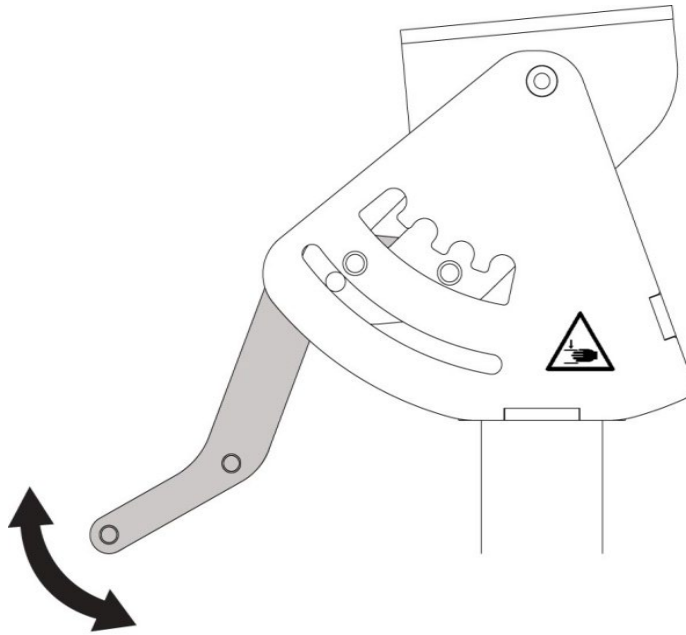

Figure 19 Release the Dispenser Head Angle Adjuster Handle
4. Make sure the **Dispenser** Head Angle Adjuster Handle is locked correctly (refer to Figure 19).